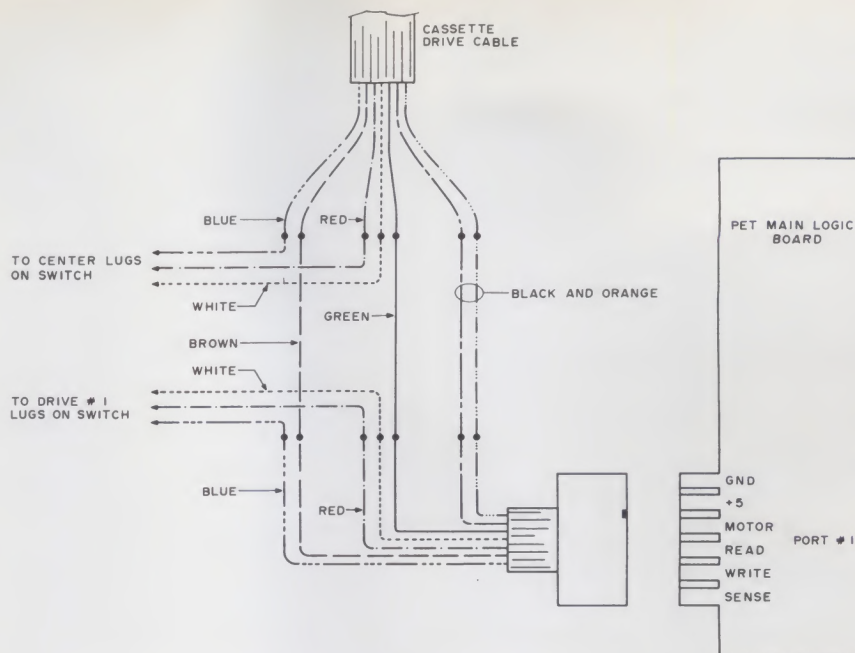

Fig. 3. Details for steps 2 and 3 (cable cut, wiring, colors and connection).
tape drive cable that goes to each of the pins on the cassette port via the connector. (Mine were as indicated in Fig. 3.) Note that two wires are connected to the GND position (pin 1).
Step 3. Connect, solder and insulate one end of each set of short wires from step 1 to each part of the separated tape drive cable from step 2 (Fig. 3).
The color coding of your wires should be consistent with their functions. Each of your red wires should connect to "sense," one to the tape drive cable sense wire and one to the sense slots on each of the connectors (Fig. 3).